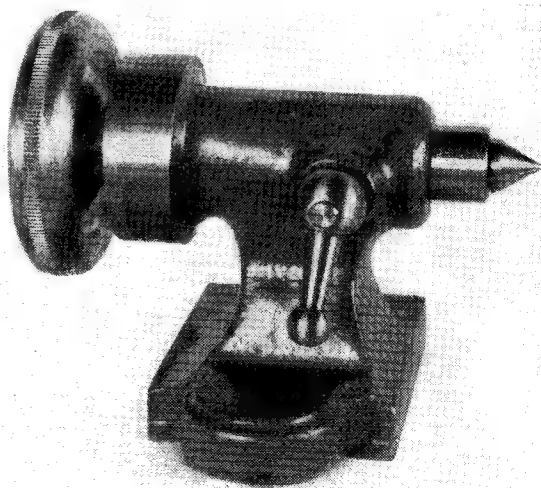

Fig. 10. Tailstock having an internal working thread
2. *Attachments for Tailstocks Having an Internal Working Thread.* The conversion of the type of tailstock illustrated in Fig. 10 and, in section, in Fig. 1B, is a somewhat more difficult matter; moreover, it is not possible to arrange matters so that the tailstock barrel can be moved either by the handwheel or by means of